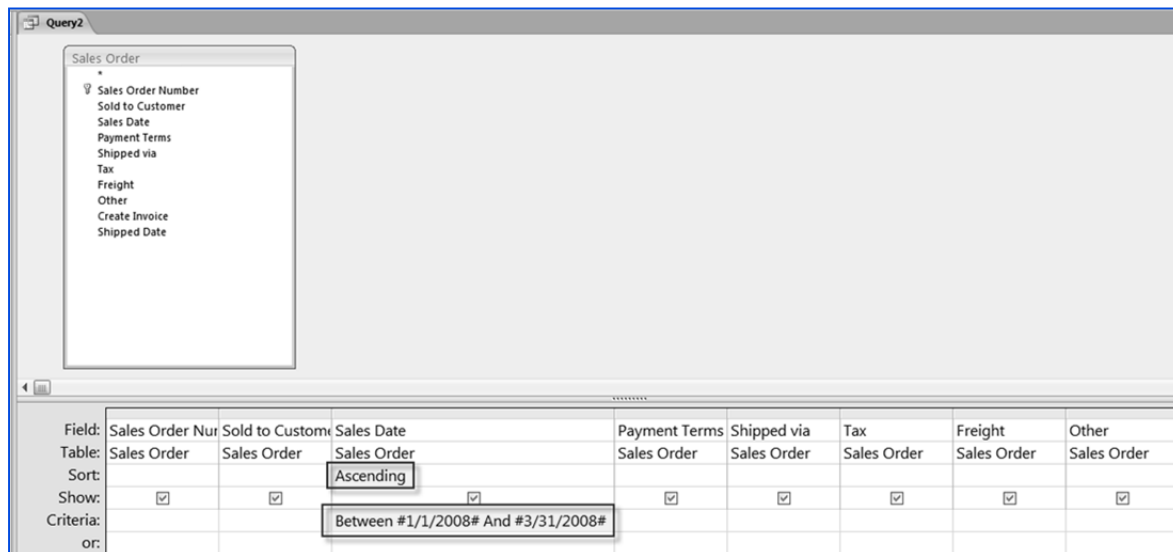

Fig. 3.3.5. Specify Query Criteria
3. In the *Criteria* section of the *Sales Date* column, write the criteria BETWEEN 1/1/2008 AND 3/31/2008. Set the *Sort* order of column as Ascending, as shown in Fig. 3.3.5.